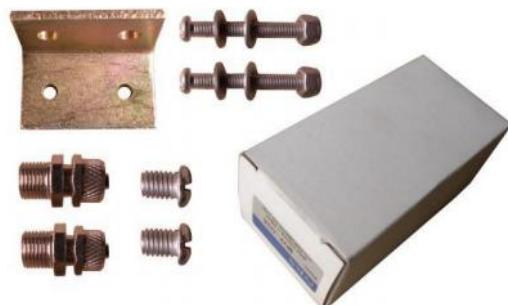

Fig.10
8. Check the Parts bag according to the parts bag list (See Fig. 10).